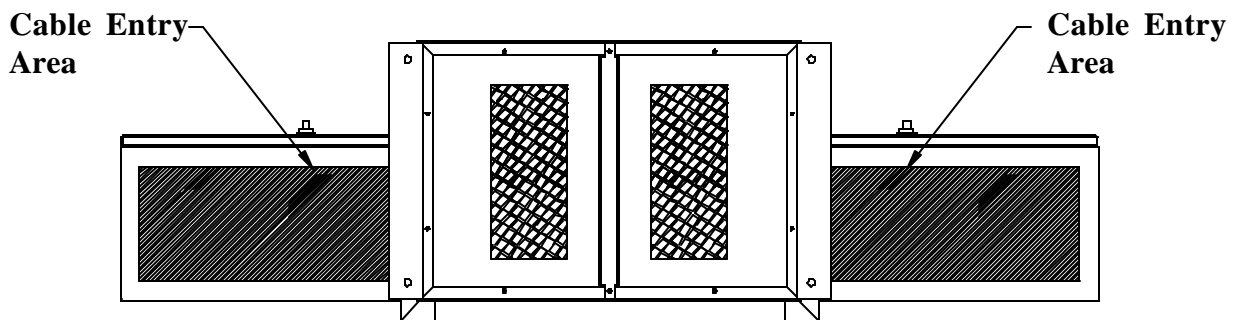

Figure 3-2
3. Install all conduits needed for cable entry in the shaded areas of both AC and DC interface enclosures as shown in **Figure 3-2**. (See following page).